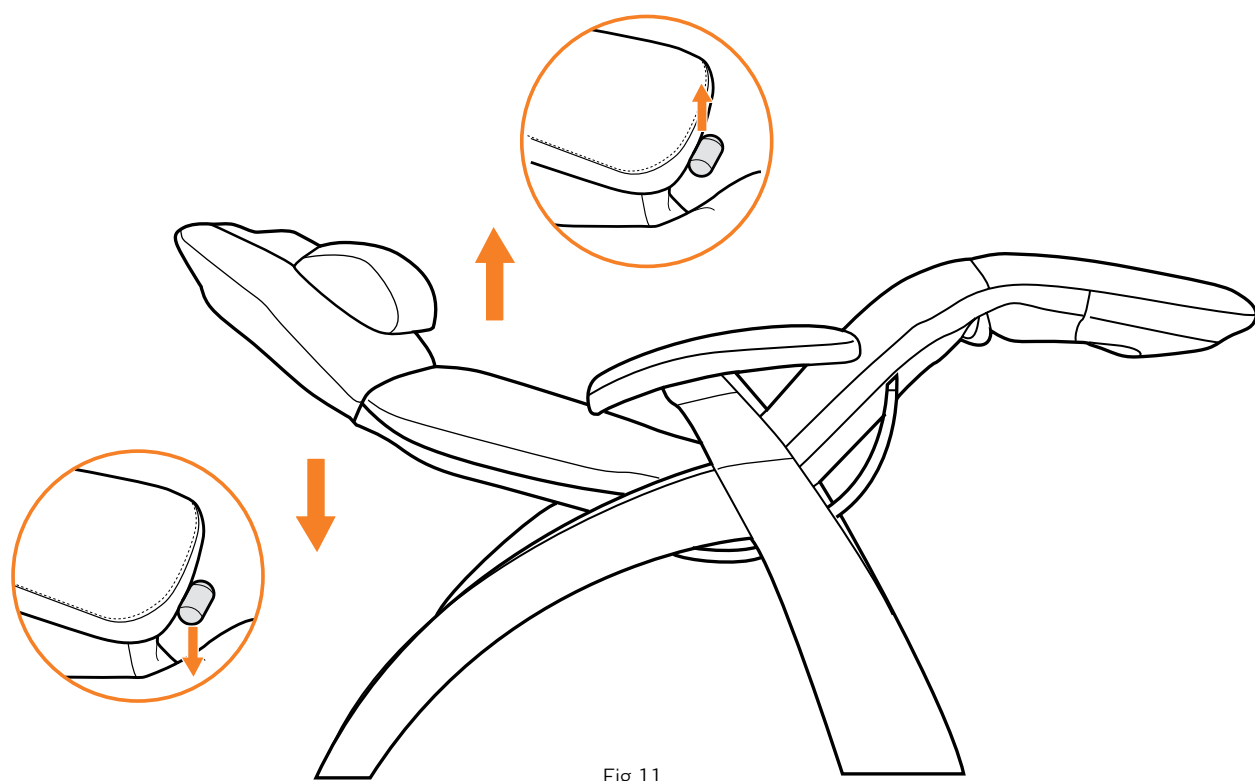

Fig.11
1. Remove the two screws taped to the underside of the right-hand arm cap. Locate the tab on the underside, at the back end of the arm cap; this tab aligns with a matching slot on the rear of the arm core. Insert the tab into the slot, then press the arm cap down onto the arm core (Fig.11).
Before adjusting the recline angle, be sure there is nothing located directly behind or beneath the chair. Gently push down on the electric recline lever to recline, or pull up on the lever to adjust the angle forward. Release the lever when you reach the desired angle. The chair automatically stops when you reach the maximum recline or the full upright position. In the full upright position, the legrest automatically folds inward for easy entrance and exit from the chair (Fig.11).